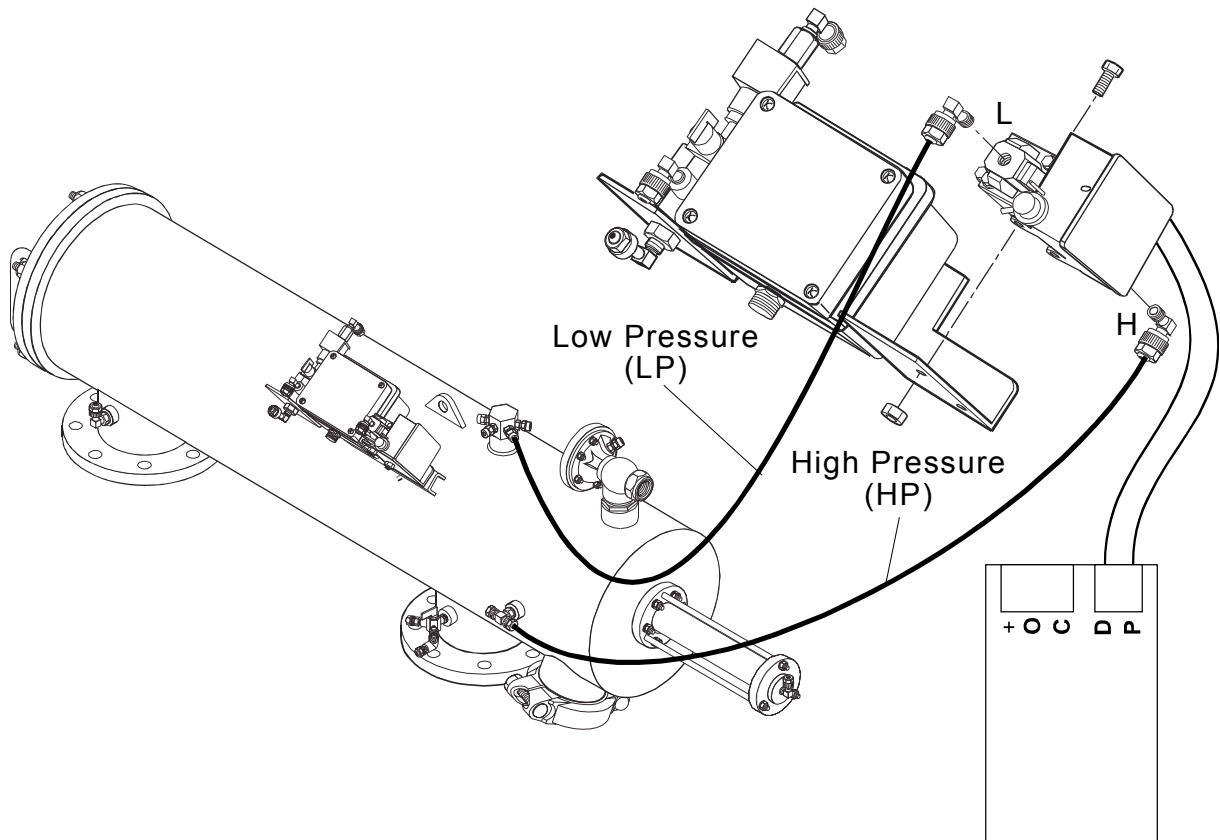

Figure 6: Differential Pressure Indicator Removal & Installation
Differential Pressure Indicator Removal & Installation (Figure 6)
9. Connect the electrical wiring to terminals D & P on the control card (See Figure 6).